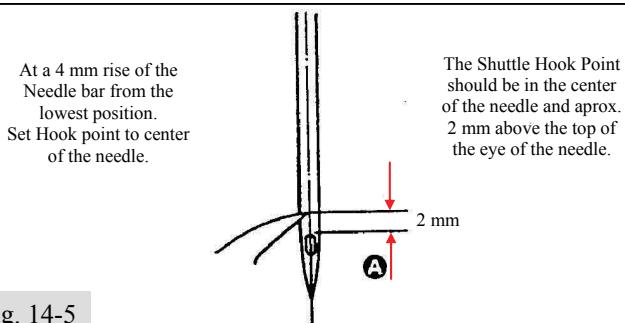

Fig. 14-5
Set the needle bar height on the TORO-3000, 3200, 4000R or 4000 P as shown in Fig 14-5 at # (A).
3. Move the Needle Bar in an up or down fashion to align the needle to the position in Fig. 14-5